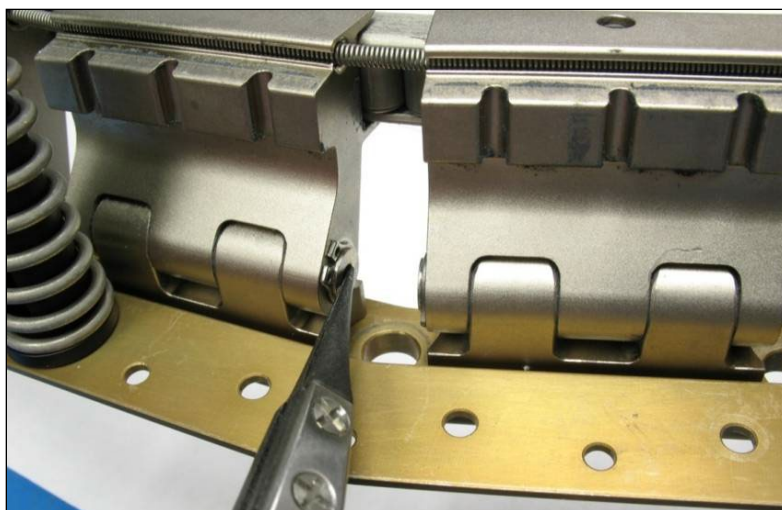

Figure 7-1: Pushing Leaf Pin to side to make room for SHC screw (15.000-24 only).
7.1.9	Lower Ring attachment to adjoining structure for the MLB 15.000-24 only. (If using reduced head fasteners per section 15 follow step 7.1.8 instead.) The spacing between Leaves is tight and requires a unique attachment procedure. <ol style="list-style-type: none"> 1. Elevate the Lower Ring off the table. This will permit the screws to protrude below. 2. Place only the washer on the Lower Ring. 3. Insert the screw. If the screw head rubs, push on each adjacent Leaf Pin to move it out of the way slightly. 4. If the adjoining structure has through holes place the Lower Ring on the structure allowing all screws to drop in the holes. 5. If the adjoining structure has threaded holes, the screws must be threaded gradually. Work around the Lightband, turning each screw a few turns at a time until hand tight. Take care to prevent the screw heads from jamming up into the Leaf Pins. See Figure 7-1 to Figure 7-4.